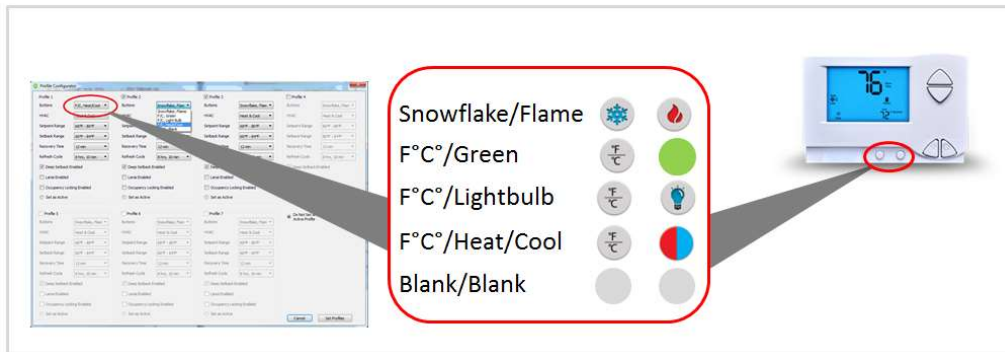

Figure 13
- On the profile configurator screen, select the button combination that corresponds to the buttons on the thermostat (Figure 13) for all three (or more) profile slots.